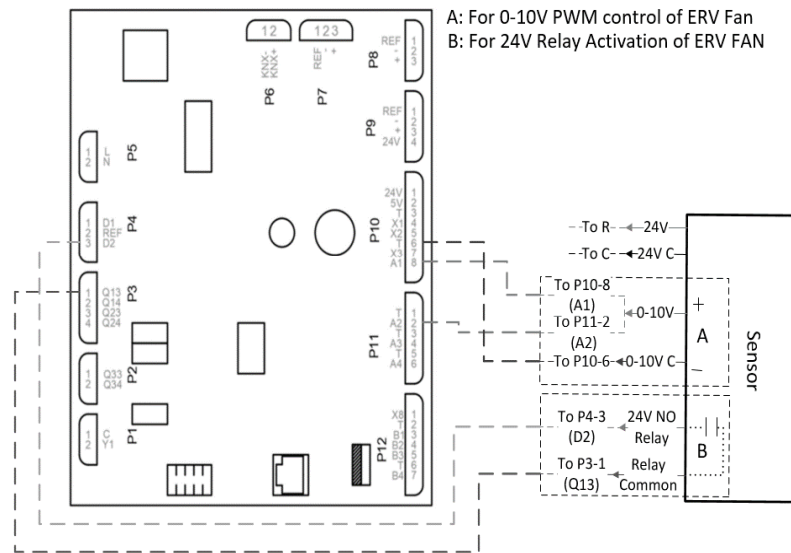

Figure 30 – Humidity/CO2 Sensor
3. For sensors with 0-10V PWM fan control use connection A shown in **Figure 30 – Humidity/CO2 Sensor**. For 24V relay activation of fans use the B connections. Insert sensor wires into specified terminals. **DO NOT REMOVE ANY EXISTING WIRES FROM ERV CONTROLLER**